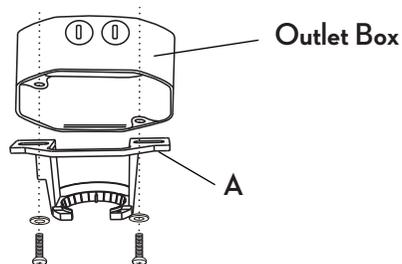

Figure 6
- Secure the mounting bracket (A) to the ceiling outlet box as shown in Figure 6 by using two screws and washers (not provided). Make sure the mounting bracket is level. You may need to insert additional washers (not provided) between the outlet box and the mounting bracket to make it level.